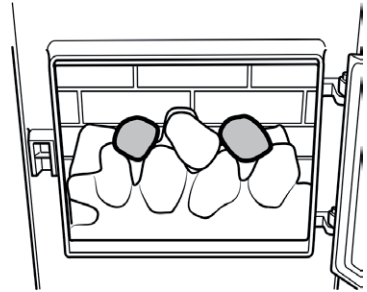

Figure 7
9. Locate the two ceramic coals identified with a number '2' as in figure 7.